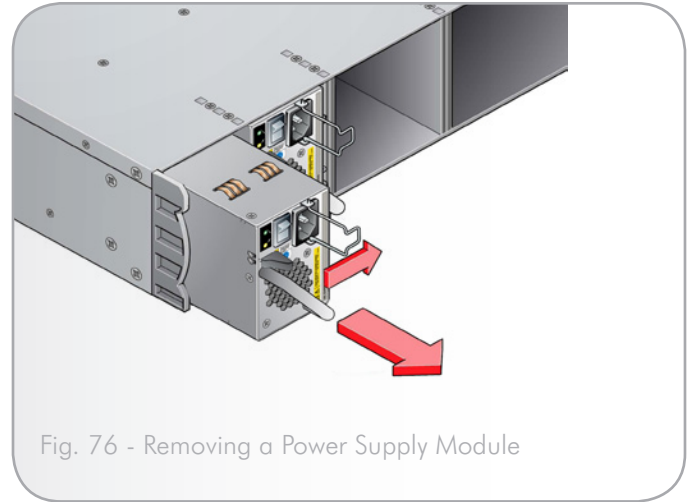

Fig. 76 - Removing a Power Supply Module
3. Push the latch on the power supply handle to the right (*Fig. 76*), then grip the handle and pull the module out of the enclosure.